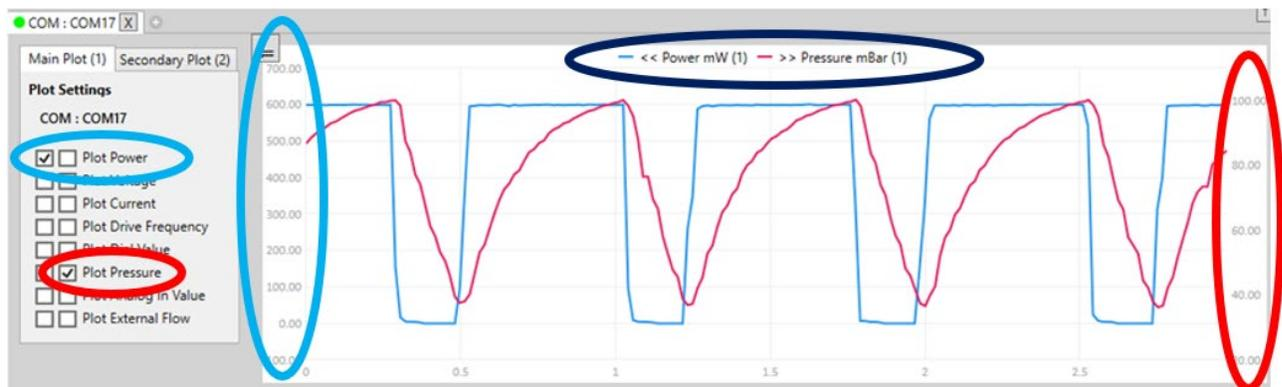

Figure 38 Plot with two axis. Plot power on the left Y axis in blue and pressure on the right Y axis in red
- Tick the check boxes on the left to confirm the values to be plotted. The left most column of tick boxes corresponds to plotting the data on the left Y axis and the right hand column of tick boxes corresponds to plotting the data on the right Y axis (as shown in Figure 38).